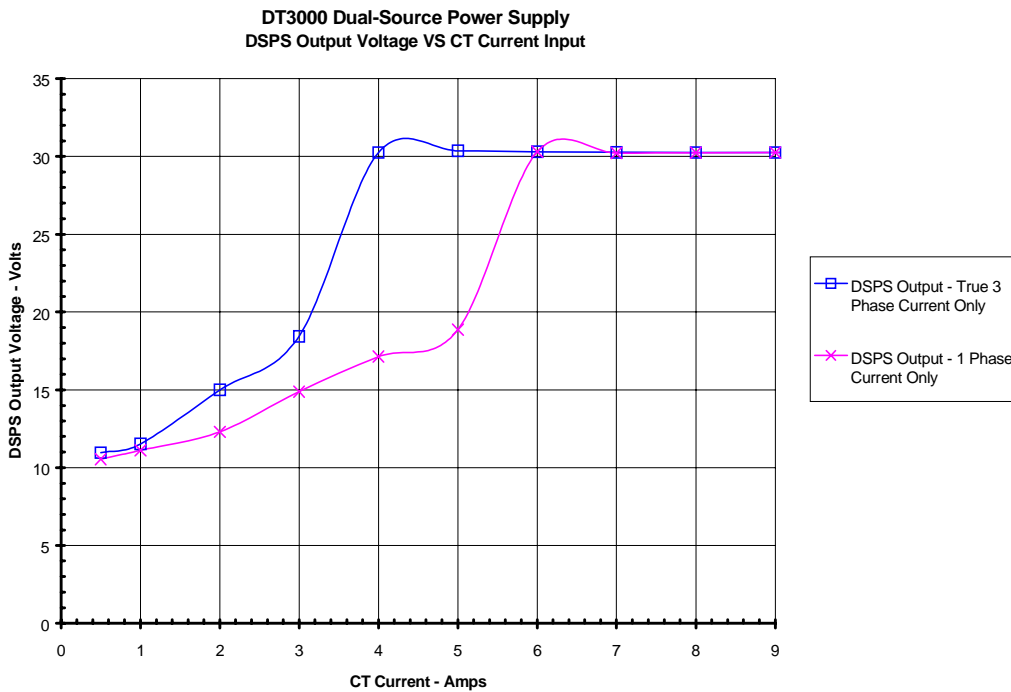

FIGURE 11. DSPS output voltage to relay
- 7.1.8 The dc voltage on terminals TB1 - 5 & 6 should correspond very roughly to that from the plot in Figure 11, DSPS output voltage as a function of three-phase current.